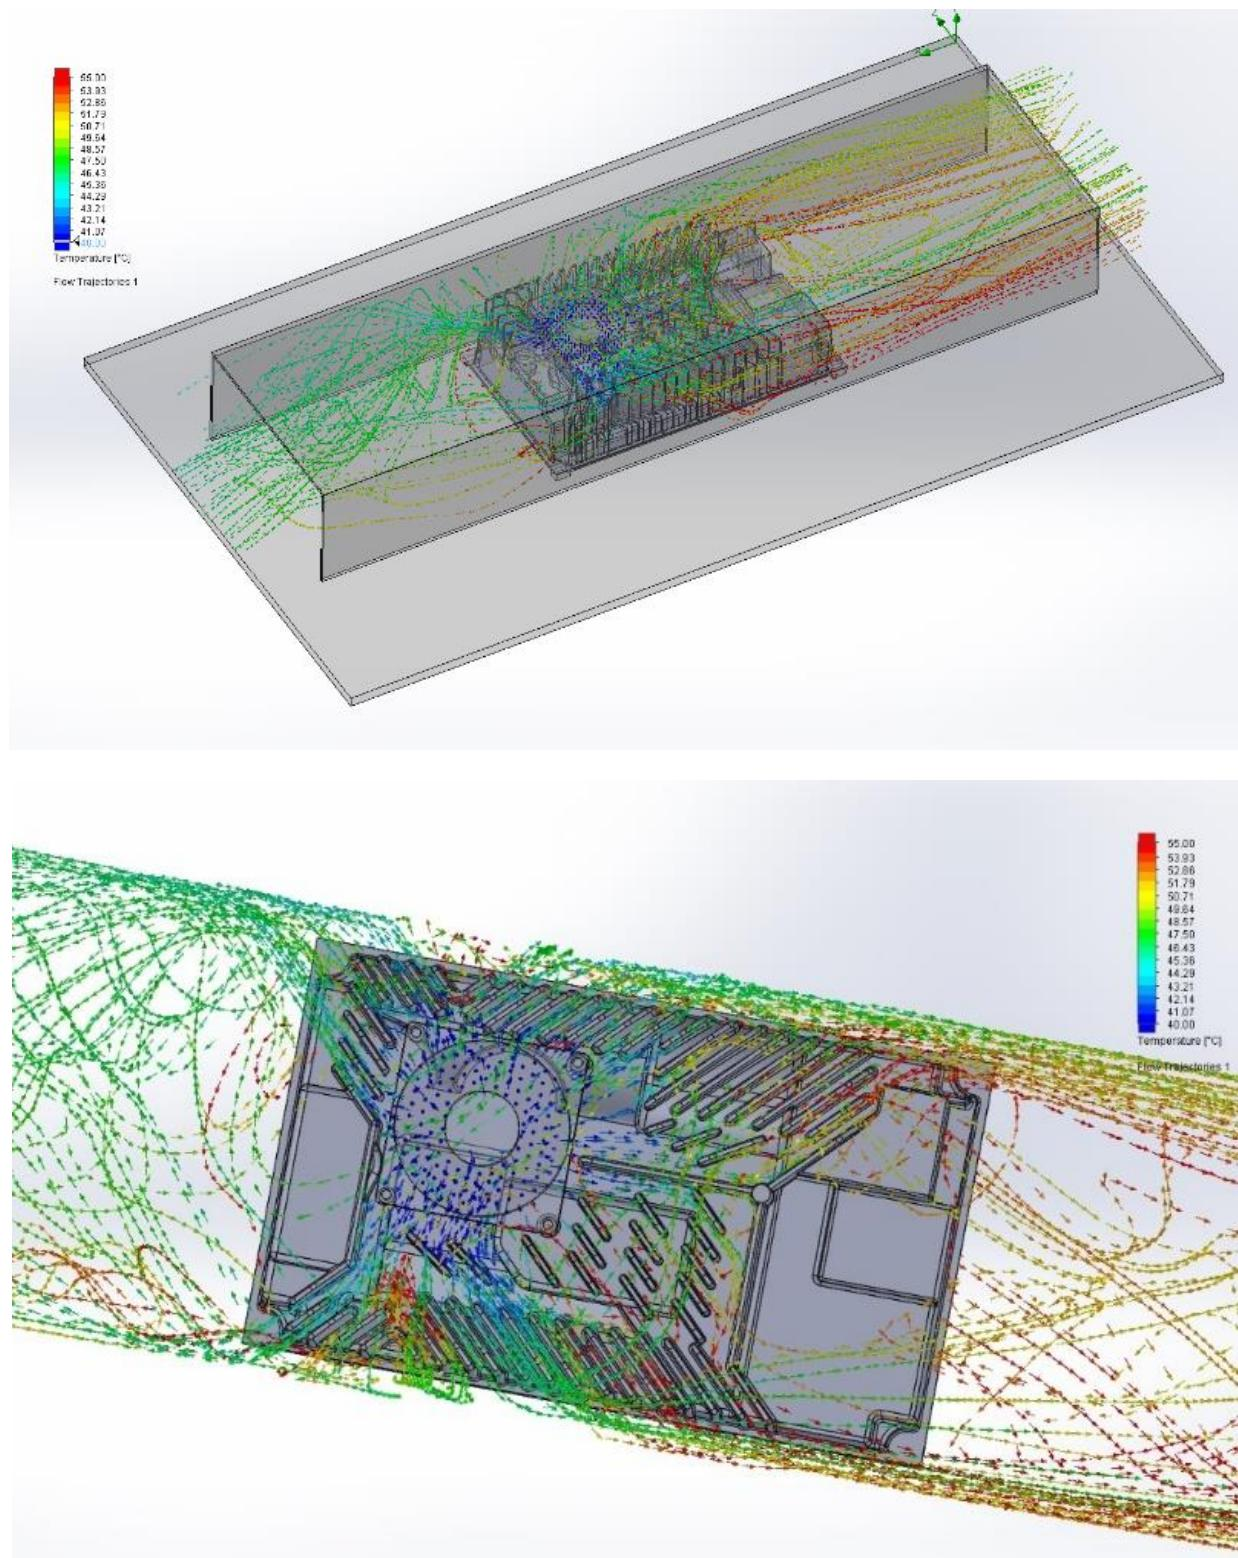

Figure 8: ICL1200 & RC1200 Forced Air Flow Simulation
- The charger should be oriented so the fan is able to exhaust the air from the equipment in the most effective directions. See Figure 8 ICL1200 & RC1200 Forced Air Flow Simulation